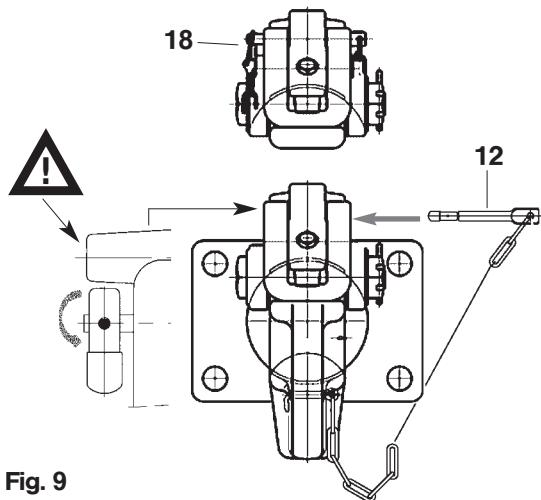

Fig. 9
- push the complete locking device (14) into closed position
- secure the locking mechanism with the security pin (12).
- the end part of the security pin **must swing down**. (see fig. 9)